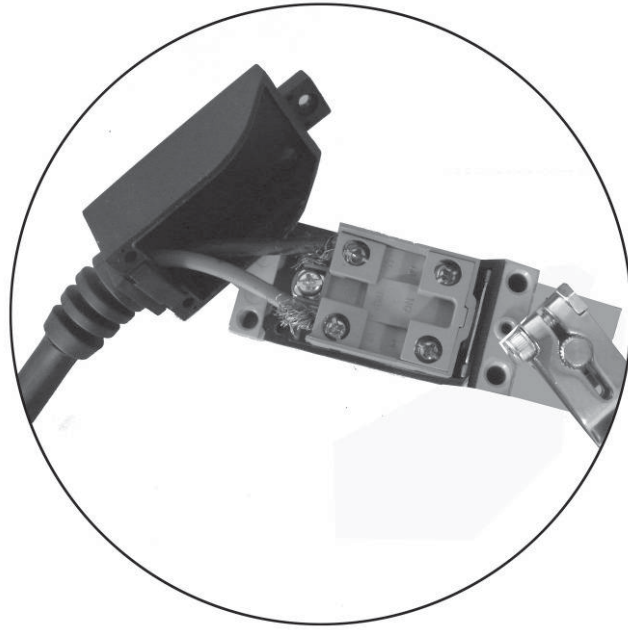

Fig. 31
2. Connect the limit switch with the cable wire. Connect wires to terminals **#11 & #12** (See Fig. 31).